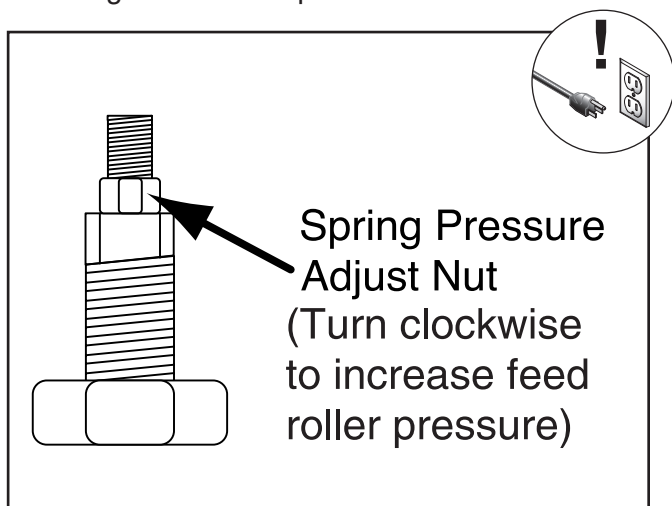

Figure 35. Feed roller height adjustment.
3. Make sure that the spring pressure adjust nuts shown in **Figure 35** are all an equal height from the top of the screw.